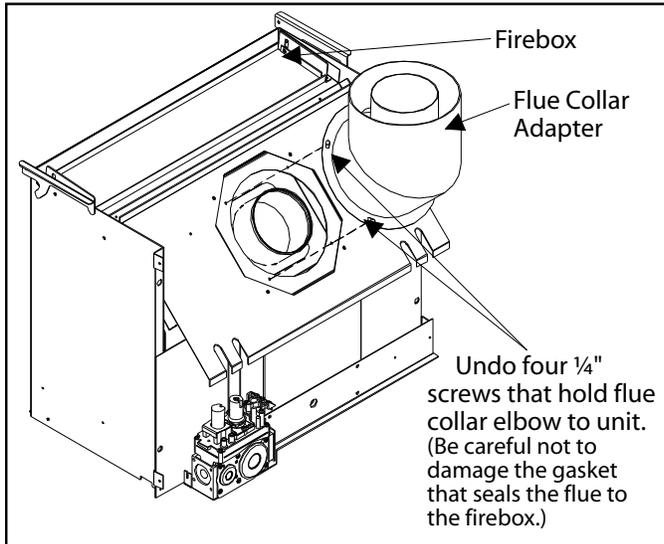

Figure 21: Step 3 of Converting Top Vented into Rear Vented.
3. Remove the four screws that hold the flue connection to the unit body (see Figure 21). Carefully remove the elbow being sure not to damage the gasket that is glued to the flue collar elbow.